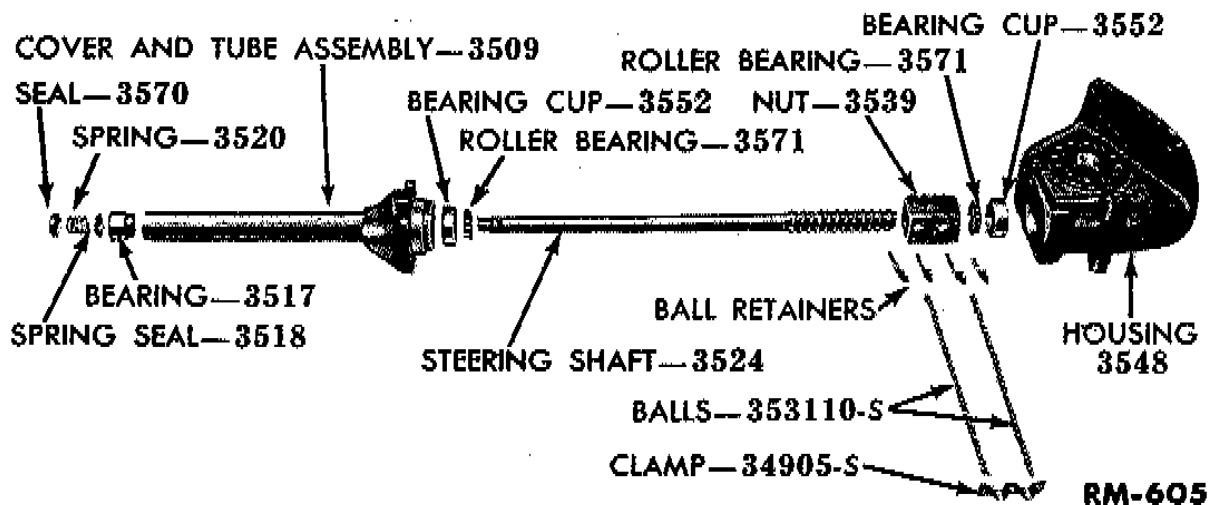

Fig. 2—Steering Tube Shaft, Disassembled
Rotation of the steering tube shaft moves the ball nut along the worm. The left steering sector engages the rack on the ball nut, and is thereby rotated through an arc by the movement of the ball nut (fig. 2). The right sector engages the left sector and rotates the same number of degrees in the opposite direction. The pitman arms transfer the motion of the sector to the spindle arms through the drag links.
Remove the three screws and clamp from the ball nut assembly (fig. 2). Lift the two ball retainers from the assembly and remove the ball bearings.
(1) **STEERING TUBE.** Replace the steering tube (fig. 2) if it is bent or otherwise damaged. Replace the bearing race if it is scored or pitted. If the bearing at the top of the steering tube is damaged, it must be replaced.
b. Installing and Adjusting Steering Tube Shaft and Sectors. Position a roller bearing in the bearing race in the housing on the upper bearing race of the shaft (fig. 2).